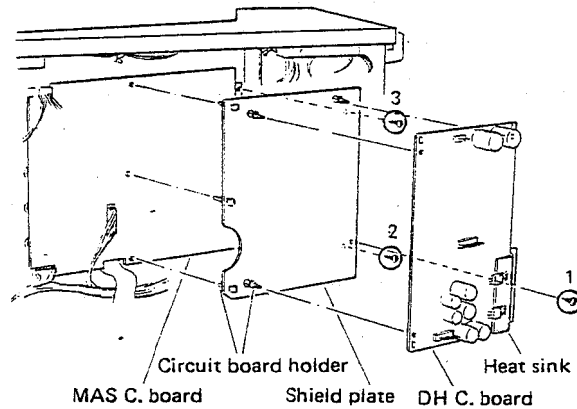

Fig. 3
- Remove the screw of the heat sink (① in Fig. 3) and three circuit board holders, and then remove DH circuit board.
- Remove two screws securing the shield plate (② and ③ in Fig. 3) and the circuit board holders, and the shield plate can be removed.